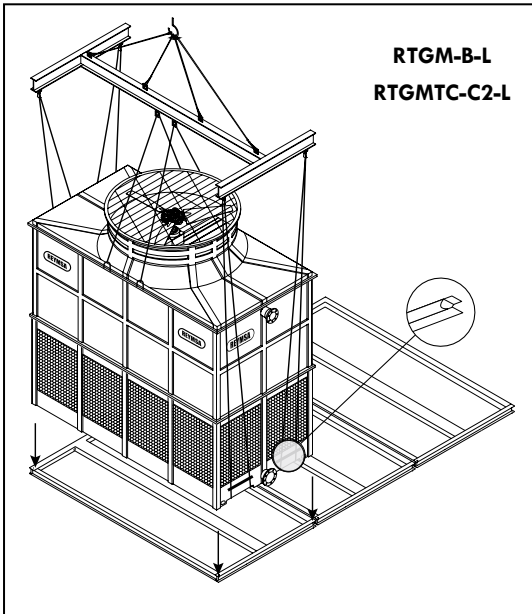
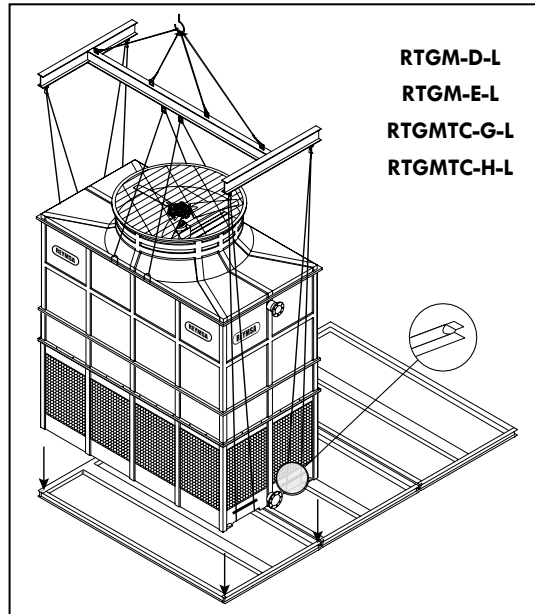
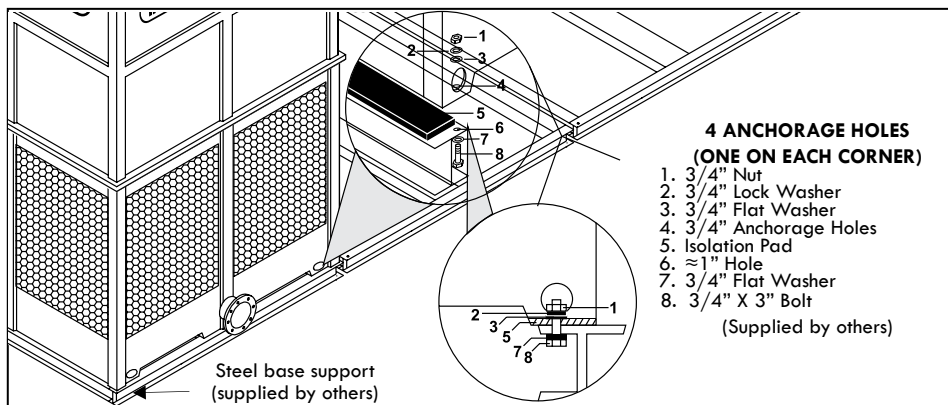

Figure A-93: L-Orientation - First T1 module lifting and installation (RTGM-B-L or RTGMTC-C2-L)
Figure A-94: L-Orientation - First T1 module lifting and installation (RTGM-D-L, RTGM-E-L, RTGMTC-G-L & RTGMTC-H-L)
Figure A-95: Typical anchorage for a modular tower (RTGM or RTGMTC)
A. Once the basin and body sections have been assembled, lift the Tower using a crane and a spreader bar and place it on top of the isolation pad and the steel base structure (see Figure A-93 and Figure A-94). Secure it with the galvanized steel nut and bolts sets (supplied by others) as shown on Figure A-95.